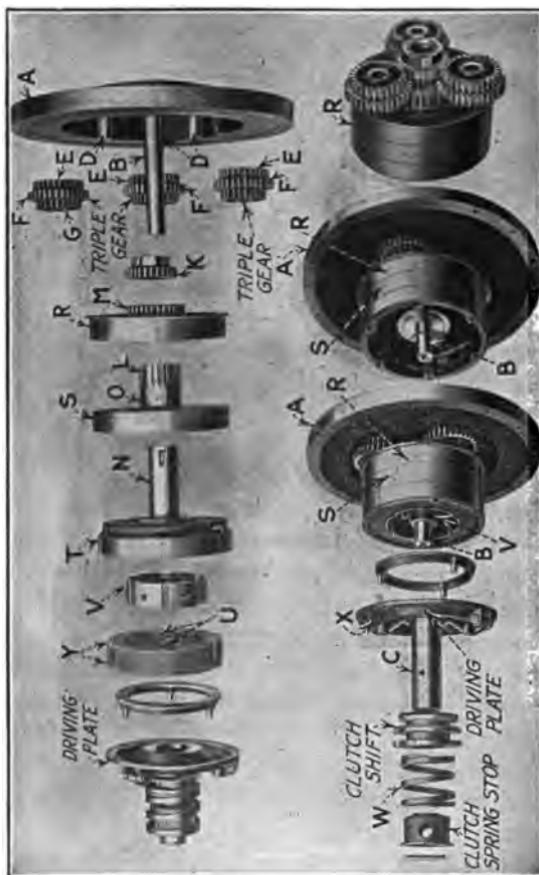

FIG. 42.—Disassembled view of Ford planetary transmission.
**A. The Multiple Disc Clutch—Disassembling the Ford Clutch.** See Fig. 42. Raise the rear end of the motor and support it so that the clutch will be accessible. This may be done by removing the bolts between the engine block and the crankcase. Then raise